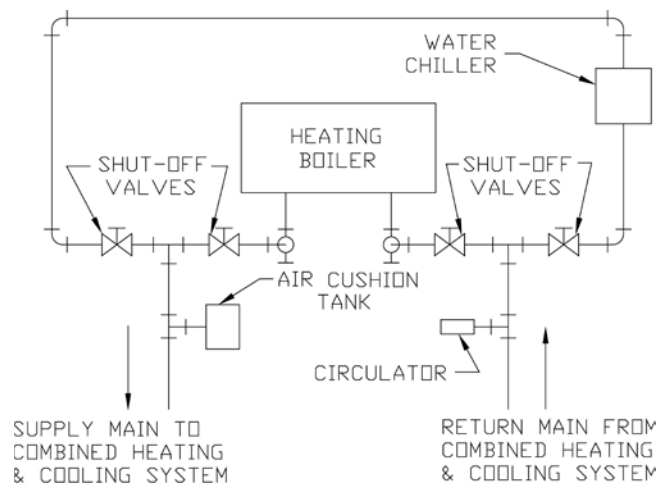

Figure 9: Recommended Piping for Combination Heating and Cooling (Refrigeration) System
- a. If this boiler is used in connection with refrigeration systems, the boiler must be installed so that the chilled medium is piped in parallel with the heating boiler using appropriate valves to prevent the chilled medium from entering the boiler. See Figure 9. Also, consult I=B=R Installation and Piping Guides.